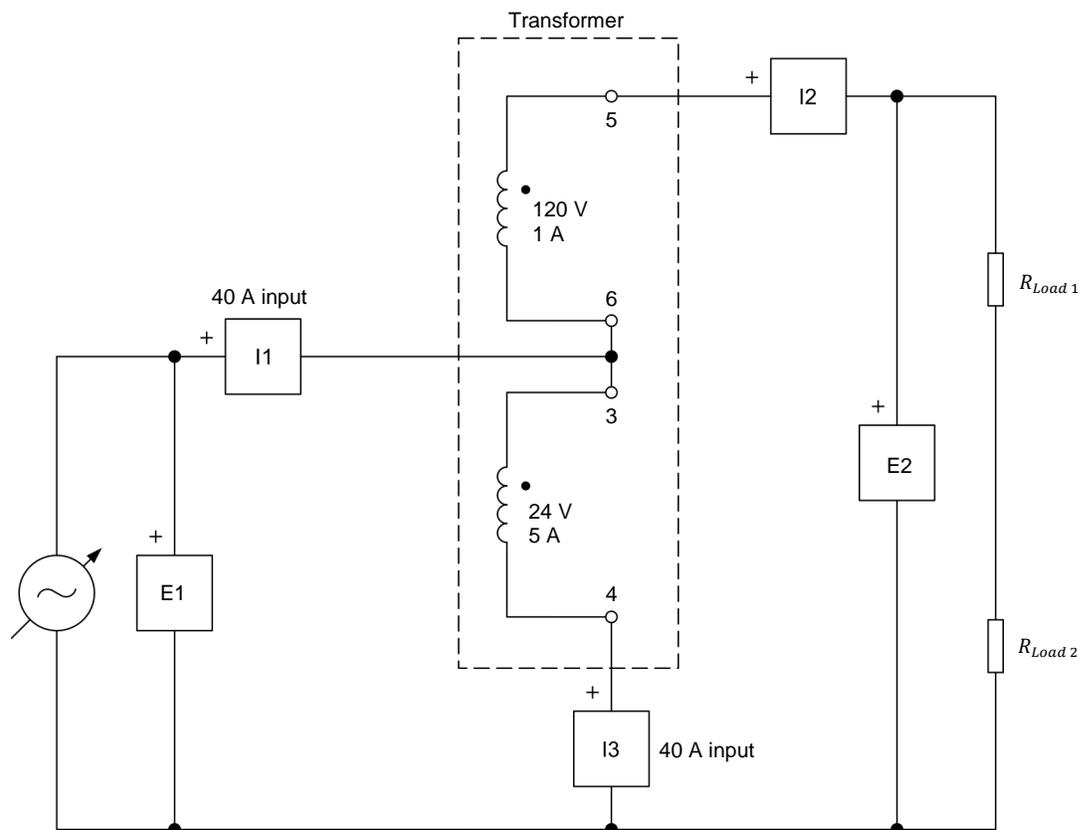

Figure 43. Step-up autotransformer connected to two resistive loads.
30. Connect the equipment as shown in Figure 43. Notice that the resistive load consists of two resistors ($R_{Load\ 1}$ and $R_{Load\ 2}$) connected in series. Connect two resistor banks of the **Resistive Load** in parallel to implement resistor $R_{Load\ 2}$.
- 39.** Determine what would be the power rating of a conventional 24 V:120 V or 120 V:24 V power transformer implemented with the same two windings as those used to build the step-up autotransformer in Figure 43.